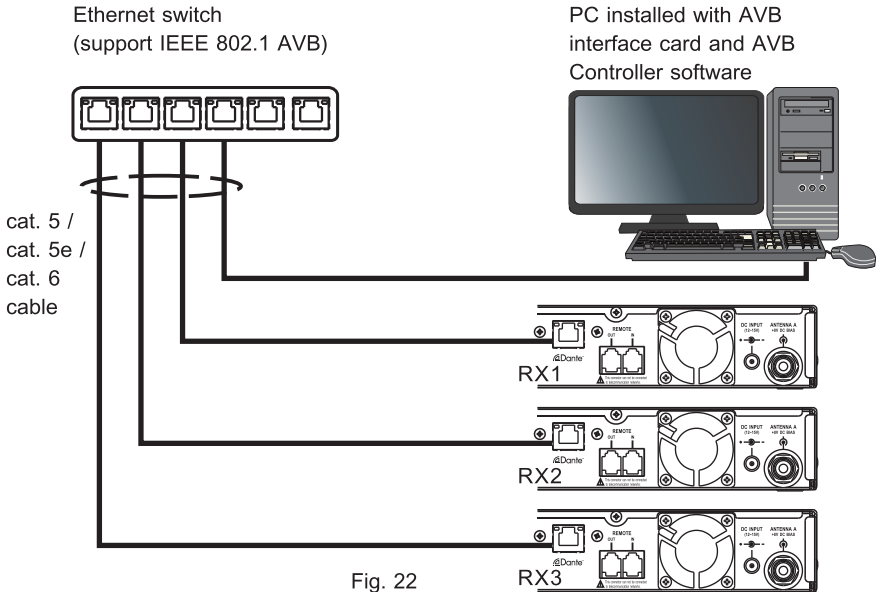

Fig. 22
1. AVB Network. Fig. 22:
- (A) Connect AVB RJ45 port on the device to the Ethernet switch via cat. 5 / cat. 5e, or cat. 6 cables to construct AVB Network.
- (B) This Ethernet switch should be able to support IEEE802.1 AVB.